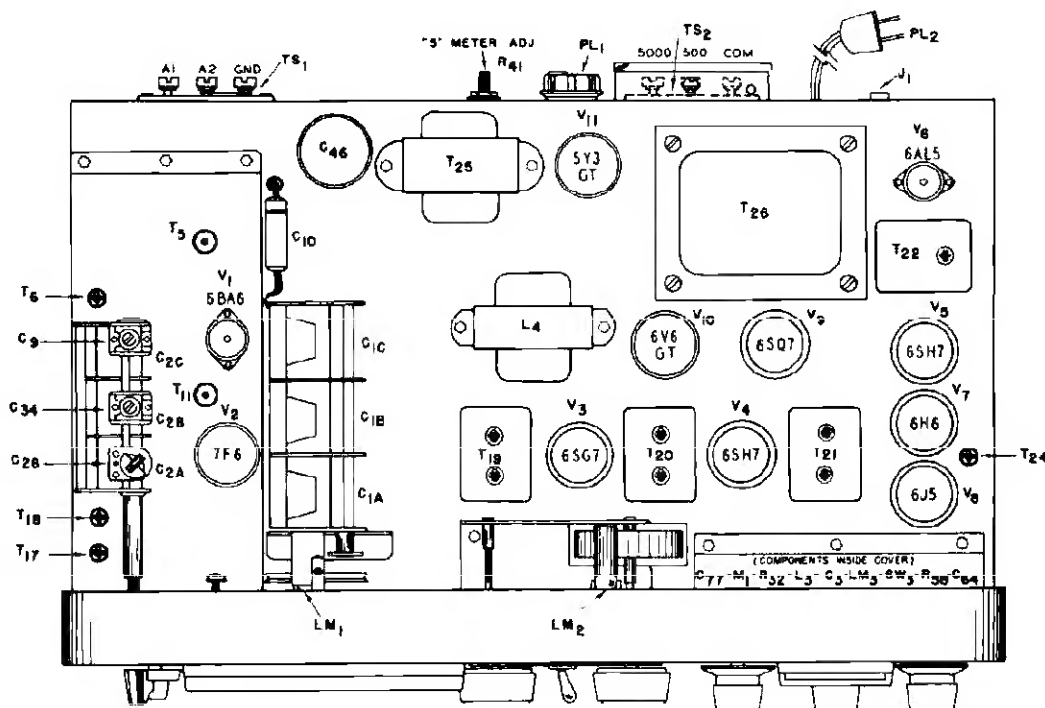

Fig. 5. Component location, top view.
3. Set "S" METER ADJ. (See Fig. 5.) on rear chassis apron for zero on the CARRIER LEVEL meter.